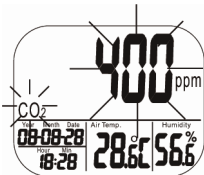

Fig. 18: Display during the CO2 calibration
- Turn on the meter and hold down SET, ▲ and MIN/MAX▼ simultaneously and more than 1 second to enter CO2 calibration mode, Fig. 18.
400 ppm and CO2 are blinking on the LCD while performing calibration, Fig. 18. Wait about 5 minutes until the blinking stops and the calibration is completed automatically. The meter will return to normal mode now.